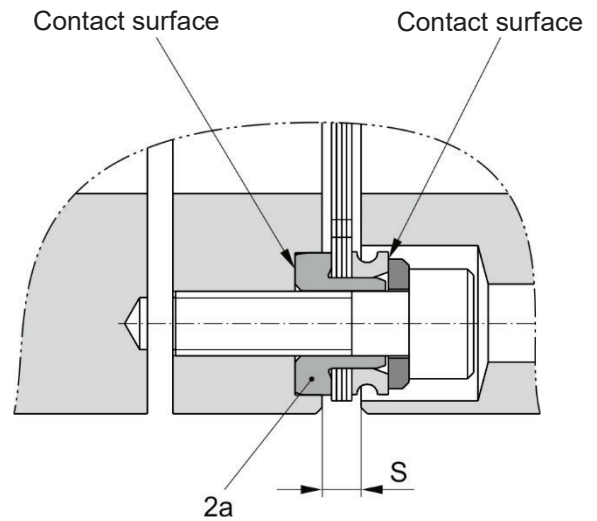

Fig. 3
Only a thin oil film is permitted on the contact surfaces of the disk packs (Fig. 3). If applicable, thick layers of preservative must be removed before assembly.
The disk pack (2) is to be installed in such a way that the collar bushing (**Item 2a, Fig. 3**) is combined with the corresponding tolerance bore in the respective hub, connection plate (4) or in the sleeve (3). Due to the high joining forces (caused by the transition tolerance) installation of the disk packs is only possible using the screw pre-tension force.
In order to prevent axial distortion of the disk packs, the dimension "S" (see Fig. 3 / page 9 and Table 1) must be maintained with aligned angular and radial shaft misalignments.